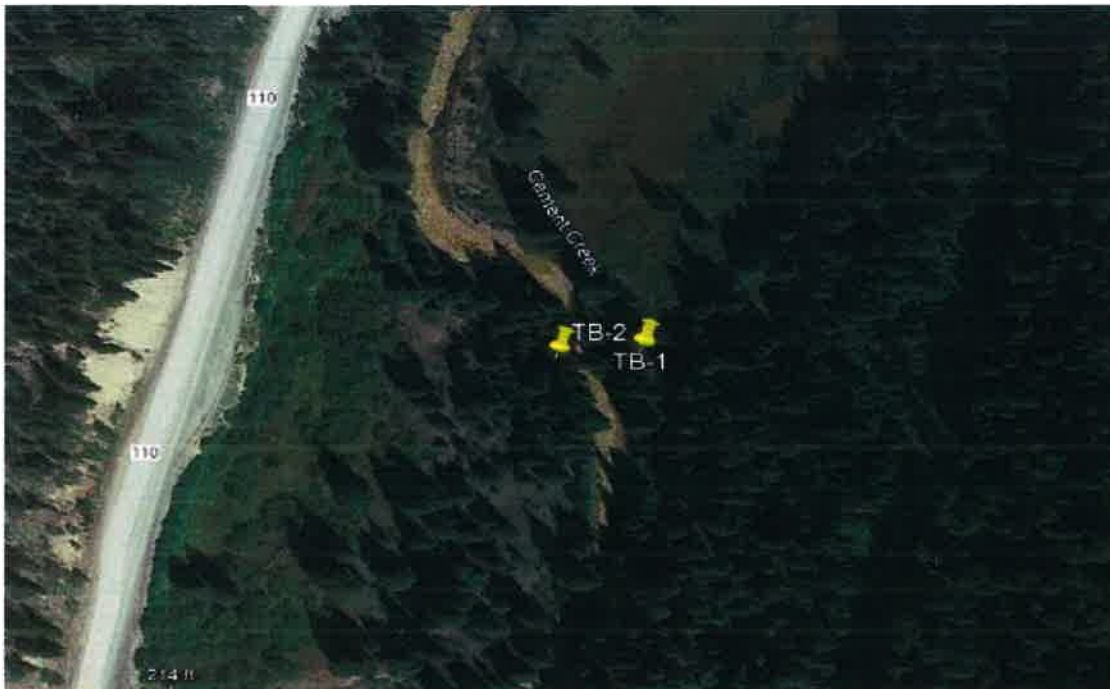

Figure 1: Locations of Exploratory Borings. Adapted from Google Earth.
We advanced two test borings (TB) on the project site at the approximate locations shown on Figure 1 above. The subsurface conditions encountered are presented in the attached test boring logs. The logs present our interpretation of the subsurface conditions encountered in the test borings at the time of our field work. Subsurface soil and water conditions are often variable across relatively short distances. It is likely that variable subsurface soil and water conditions will be encountered.